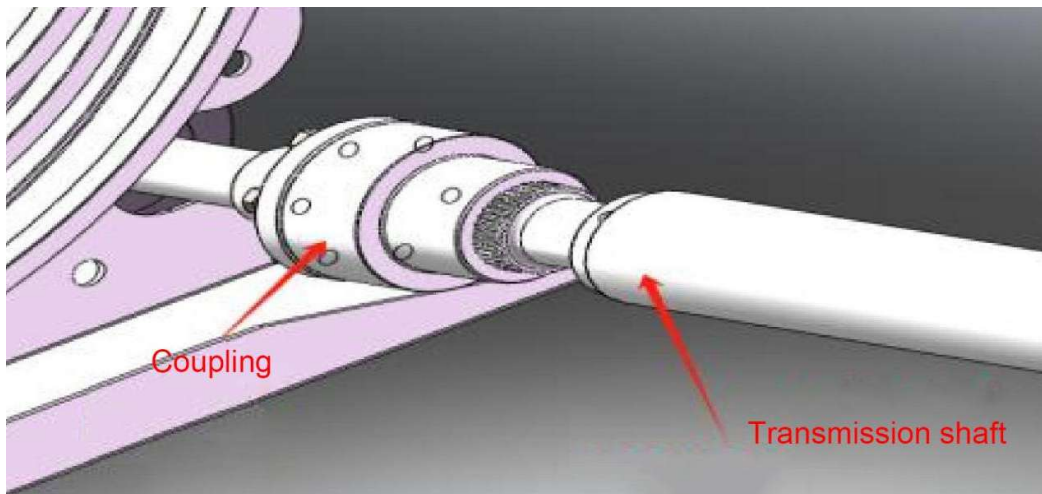

Figure 6
- ③ Insert the transmission shaft into the couplings on both sides(make sure the aluminum alloy clips on the timing belt are always at the same height before, during and after insertion) as shown in Figure 6;